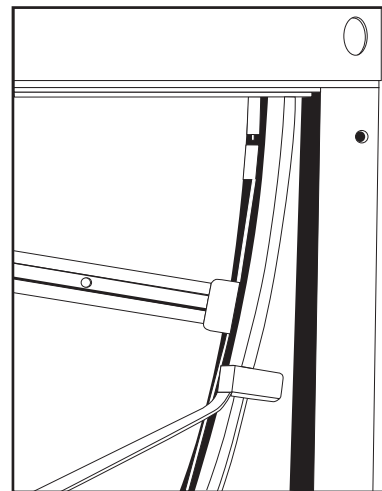

Fig. 200 — Detail of Belt Retaining Clip Location
8. Rotate wheel counterclockwise until belt retaining clip is within a few inches of the wheel bearing beam (see Fig. 200).